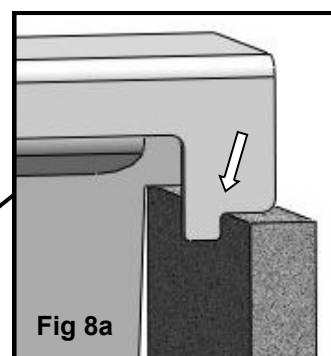

Fig 8a
- Allow the throat plate to drop back down onto the side liners as shown in fig.8a
If your stove is supplied with the EGD style throat plate (ie a 6 or 10 kw model) the EGD throat plate does not sit on or support the side liners, and does not conform to the detail shown in Fig.8a.